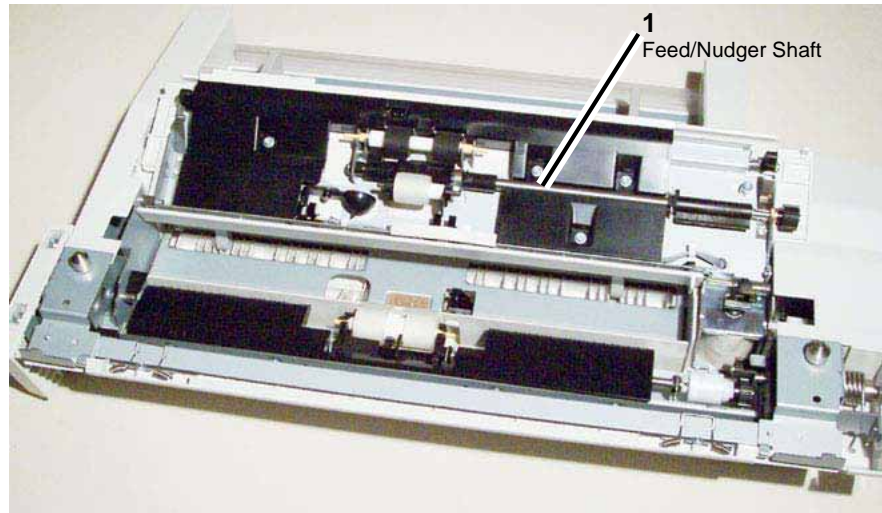

Figure 1 Feed/Nudger Shaft
2. Remove the Feed/Nudger Shaft where shown in the Figure and as detailed in the Parts List. Figure 1
1. Install the Feed/Nudger Shaft where shown in the Figure and as detailed in the Parts List. Figure 1